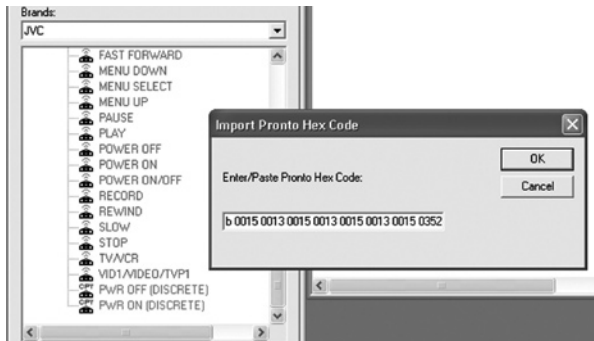

Figure 73 Importing/Pasting Pronto Hex Code for Special IR Commands
- Left-click **Import Pronto Hex Code...** and place cursor in the **Enter/Paste Pronto Hex Code** field of the **Import Pronto Hex Code** pop-up. Refer to **Figure 73**.